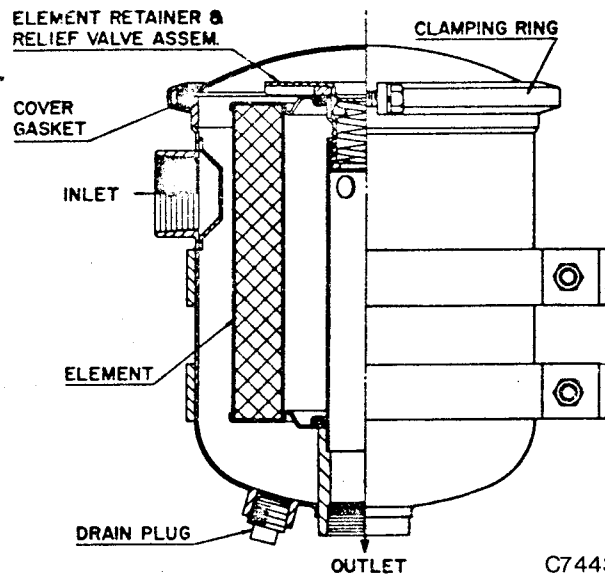

FIGURE 4-5. — COMPRESSOR OIL FILTER
**COMPRESSOR OIL FILTER** (Figure 4-5) is a vital part in maintaining a trouble-free compressor, since it removes dirt and abrasives from the circulated oil. The filter is a replaceable paper element type and is equipped with an 18-21 PSI relief valve that opens in the event the element becomes dirty enough to block the flow of oil. **Element must be replaced every 1000 hours**, or when the pressure drop is 15 PSI. More frequent changes improve the system's reliability and are recommended.